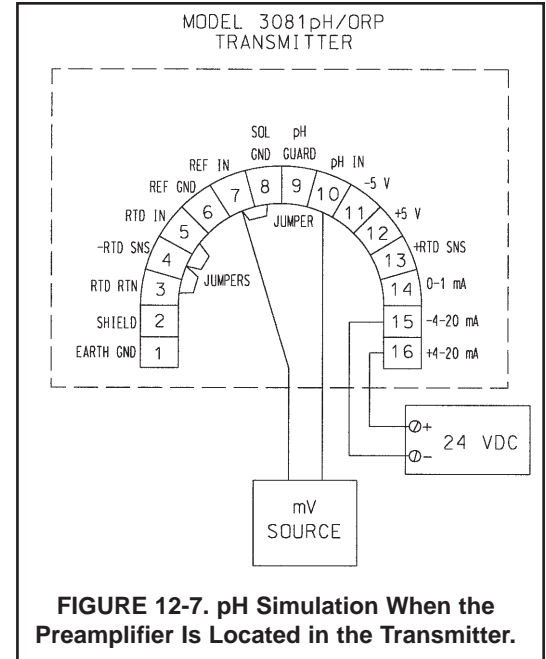

FIGURE 12-7. pH Simulation When the Preampifier Is Located in the Transmitter.
4. Disconnect the sensor and wire the transmitter as shown in Figure 12-7.